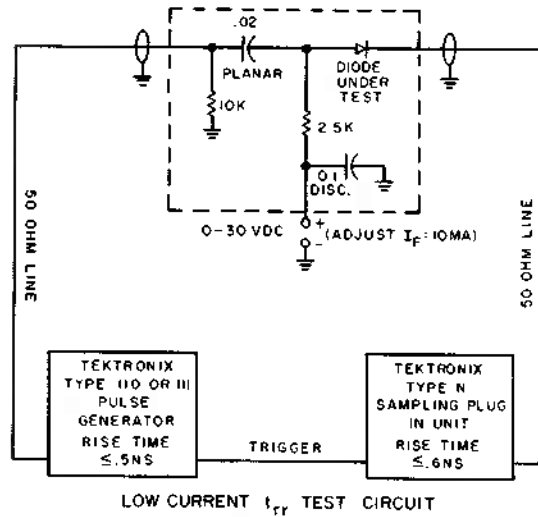

Figure 6
- NOTES (1) Maximum Capacitance is measured on Boonton model 75A capacitance bridge at a signal level of 50 mV at V_R = 0
- (2) Maximum Reverse Recovery Time, I_F = 10mA, V_R = -6V, R_L = 100Ω, Recovery to 1.0mA (Figure 6)
- (3) Maximum Forward Recovery Voltage, -50mA peak square wave, 0.1 μsec. pulse width, 5 to 100 kHz repetition rate, generator rise time (t_r) ≤ 30nsec.
- (4) Also 3μA at 20 V at 100°C